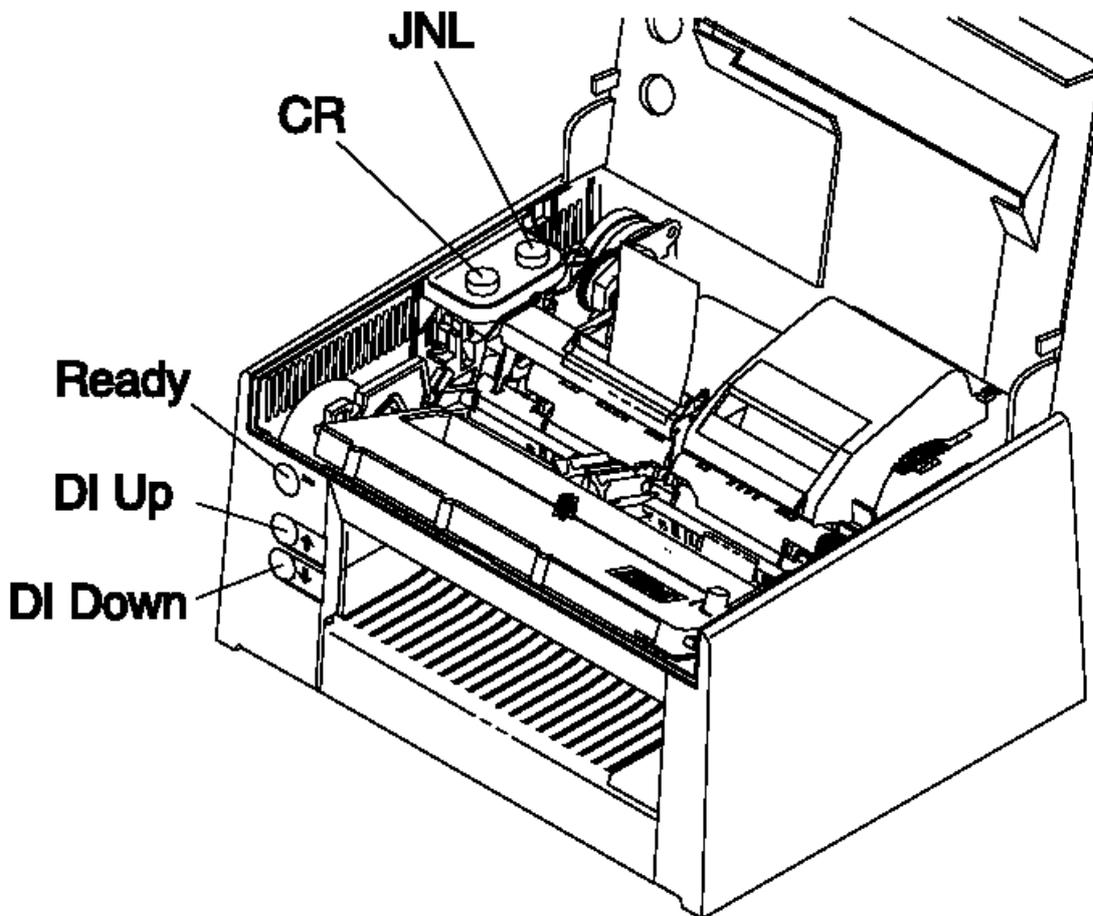

Figure 6-19. Printer Buttons
- Press the JNL button. See Figure 6-19. The voltage should drop to less than +0.5 V DC.